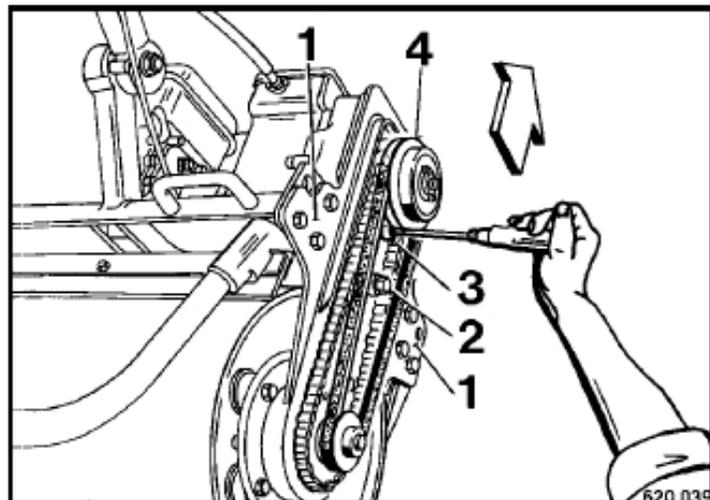

Fig. 44
- | Loosen all fastening screws 1 (Fig. 44).
- | Loosen the fastening screw (2).